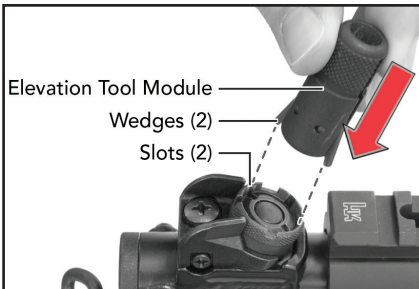

Fig. 19 – Insert elevation tool module into rear sight
1. Insert the elevation tool module into rear sight while inserting the wedges of the tool into the slots of the rear sight (Fig. 19).
1. Insert the elevation adjustment module tool into rear sight while inserting the wedges of the tool into the slots of the rear sight (Fig. 19).